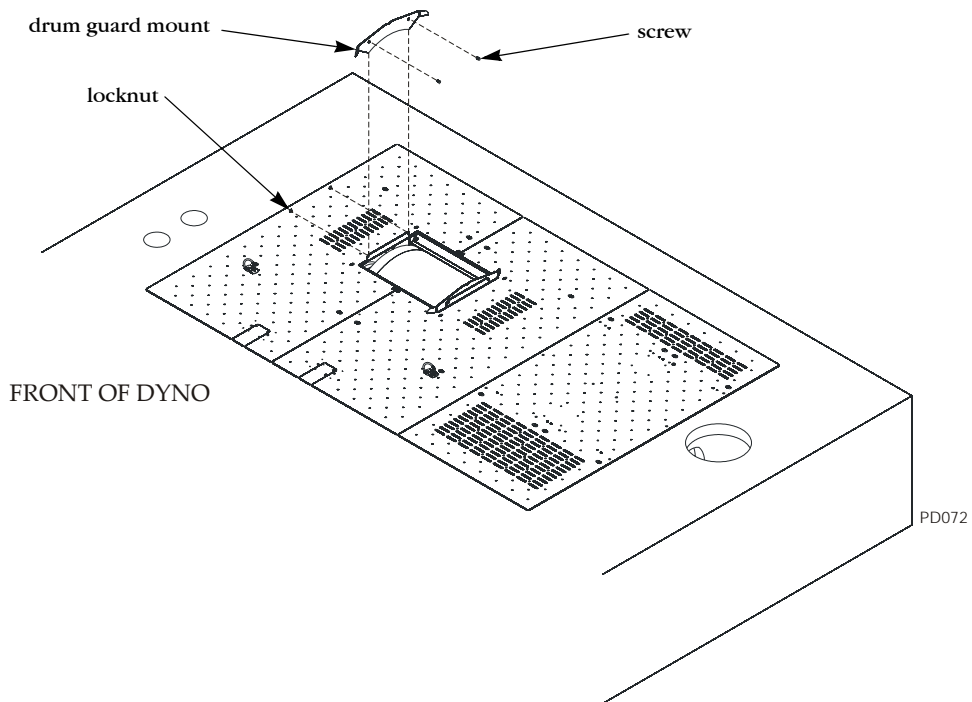

Figure 27: Securing the Drum Guard to the Drum Guard Mount
- 3 Secure the right drum guard to the drum guard mount using the two 1/4-20 x 5/8-inch pan head screws removed earlier. Refer to Figure 27 on page 27.